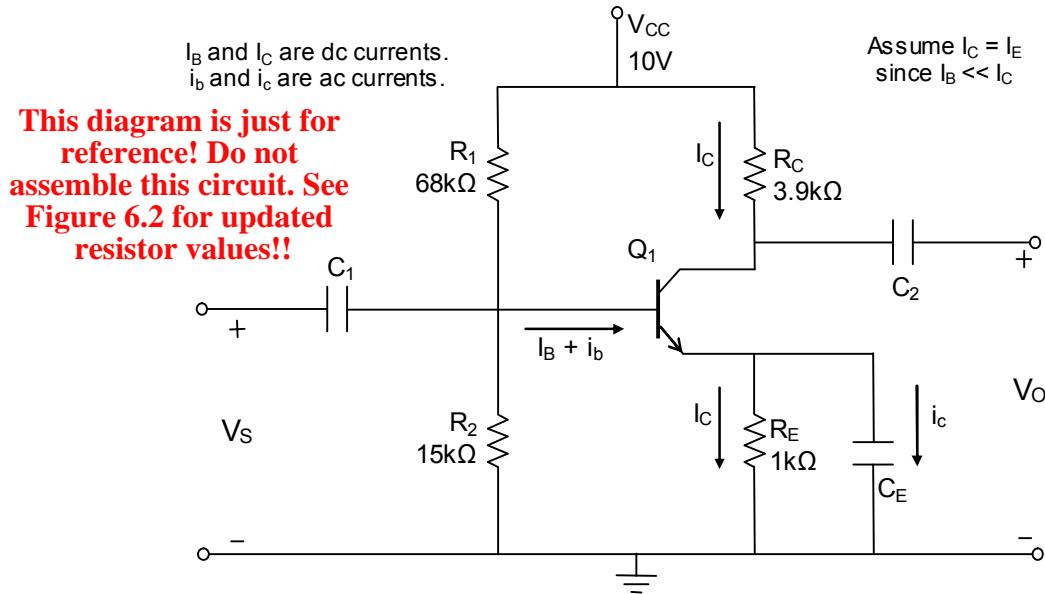

Figure 6.1: Common-emitter circuit with emitter bypass capacitor
- (ii) In the second part of the simulation, transient analyses should be performed in B2 Spice on the circuit shown in Figure 6.1 for $R_2 = 1k\Omega$, $5k\Omega$, $15k\Omega$, and $25k\Omega$. Record the values of V_S and V_O . Assume $V_S = 0.02V_{P-P}$ at 1kHz, the transistor is a 2N3904, and all capacitors are greater than or equal to $10\mu F$. For the second part, you may use source resistance $R_S (=50\Omega)$.
Figure 6.1 shows a schematic diagram of a BJT common-emitter (CE) amplifier circuit. BJT transistor amplifiers are frequently used in the common-emitter configuration (CE), since this design gives both a high current gain (A_I) and a high voltage gain (A_V). This experiment explores the dc and ac characteristics of the common-emitter circuit and how changing the Q-point affects circuit performance.